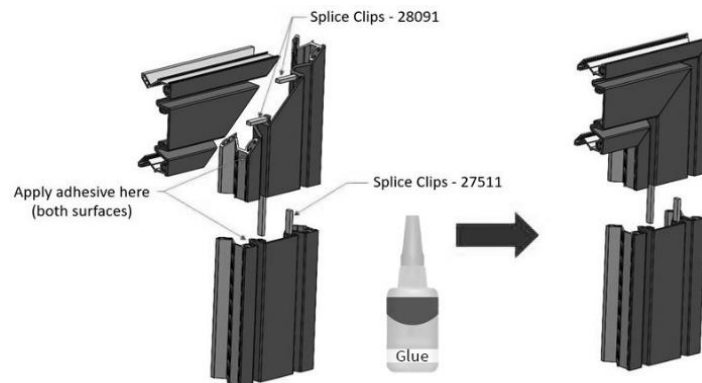

Figure 6
6. Apply a bead of sealant (by installer) into the front channels of the extrusions. Position the elastomeric face seal into position and push the seals bulbs into the extrusion channels as shown. Make sure the bulbs are seated all the way into the channel. Do not stretch the face seal lengthwise during installation. Use soapy water mix in channels if needed to assist the seal into the channel. **See Figure 6.**
8. Apply a bead of sealant (by installer) into the front channel of the extrusions. Position the elastomeric face seal into position and push the seals bulbs into the extrusion channels as shown. Make sure the bulbs are seated all the way into the channel. Do not stretch the face seal lengthwise during installation. Use soapy water mix in channels if needed to assist the face seal into the channel. **See Figure 6.**
Insert splice clips (if required) (part # 28091) halfway into the alignment holes on one of the seals. Apply glue, cyanoacrylate or similar adhesive (by others) to both seal ends and follow instructions by the adhesive manufacturer. Almost immediately after adhesive is applied, insert the protruding ends of the splice clips into the ends of the two seals together, applying uniform pressure for at least two minutes while maintaining contact between both sides. The splice clip is not necessary, but is recommended, especially on larger sized seals. **See Figure 6**